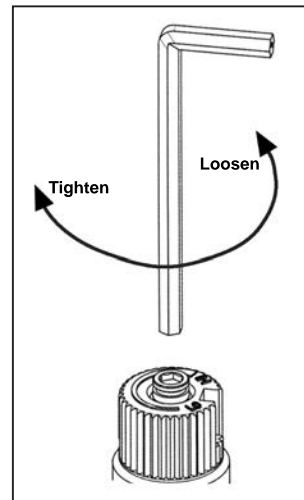

Figure 12: Removing valve screw.
- d) Insert a 5/32" or 4 mm Allen wrench into the hexagonal key-way of the screw (see Figure 12), rotate it counter-clockwise until it is free and extract it.
- f) Using the Allen wrench as shown in Figure 12, rotate the screw clockwise. **WARNING!** Do not over tighten the screw.